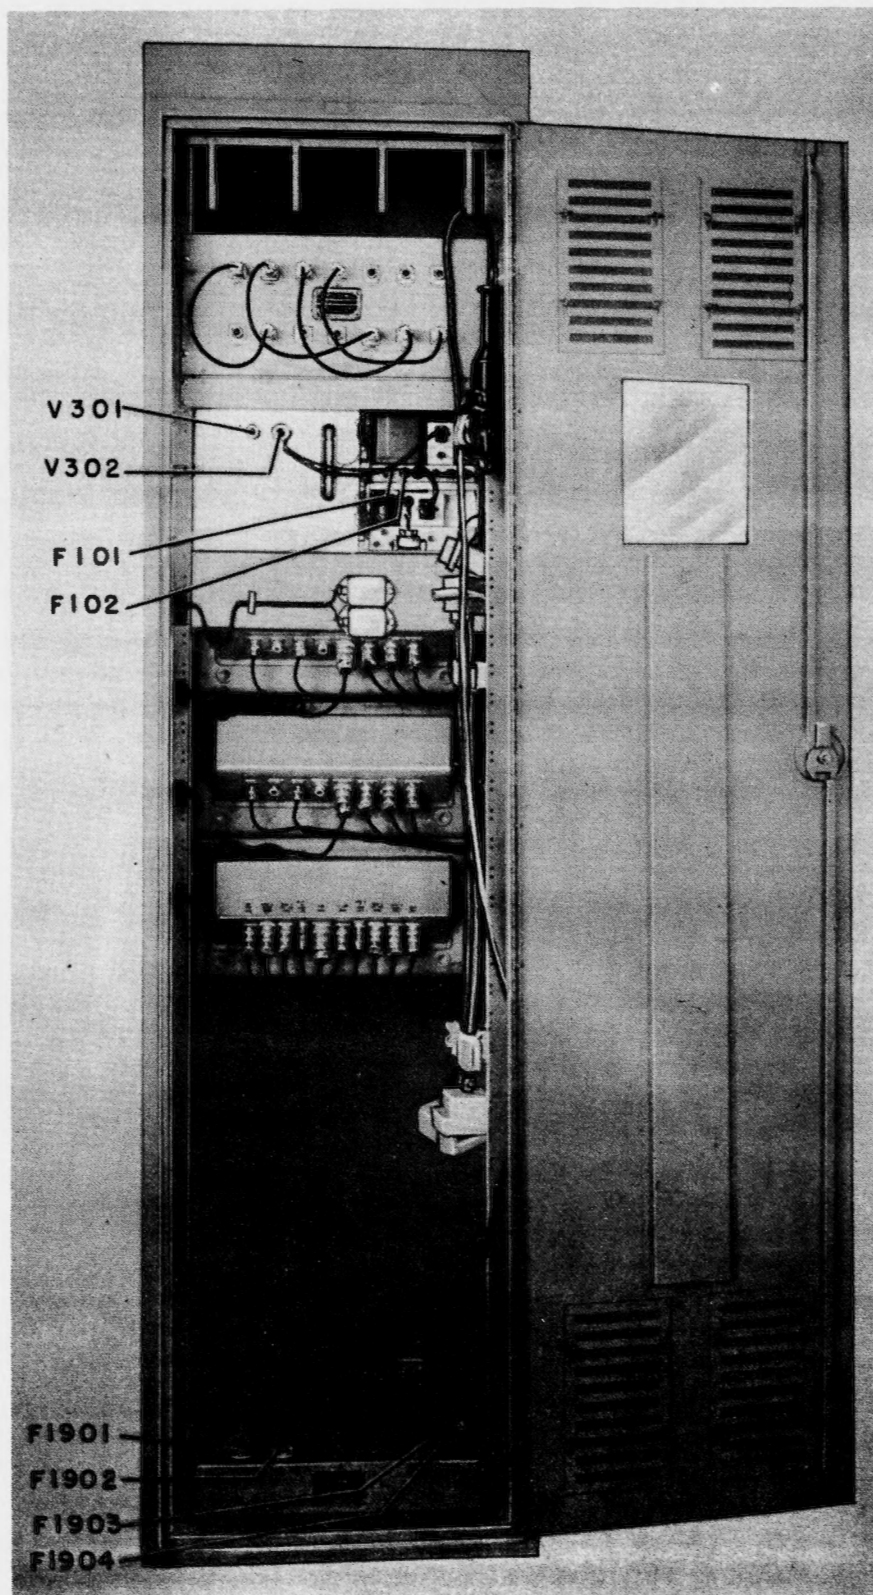

Figure 5-1. Tube and Fuse Locations, Rear View of Cabinet
(a) **CABINET CY-597A/G.** - There are two sets of fuses in this unit, the MAIN POWER fuses and the TROUBLE LAMP fuses. They are mounted on Switch Panel SA-238/G which is located at the bottom rear of the cabinet (see figure 5-1).
2. **TROUBLE LAMP FUSES.** - The two one-ampere fuses located to the top right of the Switch Panel are provided to protect the trouble light circuit (see figure 5-1).
(d) **R-F OSCILLATOR.** - The POWER fuse (2 amperes) on the OVEN fuse (3 amperes) are mounted on the rear of the R-F Oscillator power supply. They are accessible from the rear of the equipment (see figure 5-1).
(a) **LOCATING DEFECTIVE TUBE.** - Defective tubes in the R-F Oscillator may be located as follows: All tubes may be checked visually to see if they are lighted when power is applied or for warmth. The power supply chassis may be withdrawn from the oscillator case in a matter of seconds to permit access to the electron tubes of this unit. To remove the power supply chassis, slip the unit out of the case by simply half-turning its four snap fasteners, two of which are located on the front panel, and two of which are located under the rear of the power supply chassis. Disconnecting the power supply in this manner removes power from the oven and should not last for more than approximately five minutes, if good oven stability is to be maintained. Those tubes which fail to glow when power is applied or feel cold when touched very soon after disconnection are defective and should be replaced. When tubes are replaced, care should be taken to install tube shields. Refer to figures 5-1 and 5-4 for location of tubes in this unit.